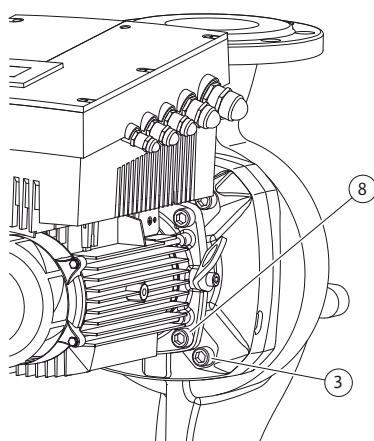

Fig. 45: Optional fixation of the motor impeller unit
11. Loosen and remove the screws (Fig. 6, Item 3). Depending on the pump type, the outer screws (Fig. 45, Item 3) are to be taken. The motor impeller unit (see Fig. 12) remains securely in the pump housing after the removal of the screws; there is no danger of tipping even in the horizontal position of the motor shaft.
16. Depending on the pump type, loosen the screws (Fig. 6, Item 10) or alternatively, the screws (Fig. 45, Item 8).
22. Carefully push the lantern over the shaft and position it in the old position or another desired angular position to the motor flange. Observe the permitted installation positions of the components when doing this (see chapter 7.1 “Permitted installations position and change of the arrangement of components before the installation” on page 74). Attach the lantern with the screws (Fig. 6, Item 10) **or** – for the pump/lantern types in accordance with (Fig. 45) – with the screws (Fig. 45, Item 8) at the motor flange.